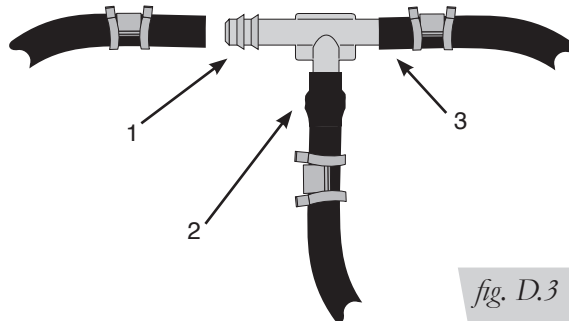

fig. D.3
6. Route the air line along the frame to the fitting on the air spring (Fig. D.3). Keep AT LEAST 6" of clearance between the air line and the exhaust system. Avoid sharp bends and edges. Use plastic tie straps to secure the air line to fixed points along the chassis. Be sure that the tie straps are tight, but do not pinch the air line. Leave at least 2" of slack to allow for any movement that might pull on the air line.
3. Push the air line over one side of the tee until all the barbs are covered. With a pair of pliers, slide the air line clamp forward until it fully covers the barbed section. Repeat the entire procedure for the other leg of the tee. (Fig. D.3)